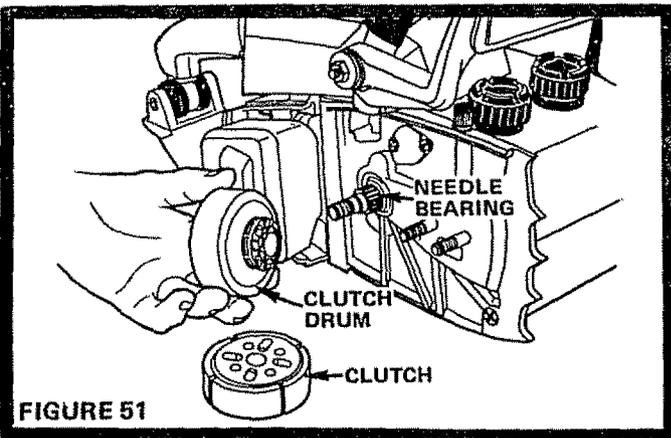

FIGURE 51
6. Apply a THIN coat of lithium grease to Clutch Drum Needle Bearing (Fig. 51). NOTE: AVOID USING TOO MUCH GREASE ON NEEDLE BEARING; GREASY CLUTCH SHOES WILL CAUSE CLUTCH SLIPPAGE.